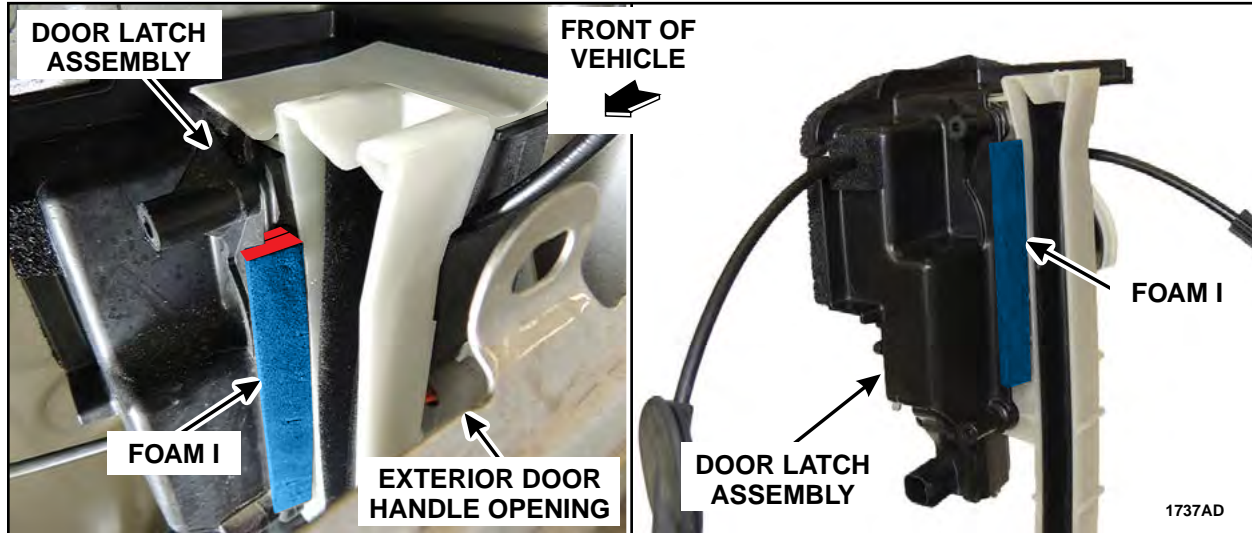

FIGURE 79
5. Install Foam I to cover the gap between the rear door latch assembly water shield and the door glass run. See Figure 79.